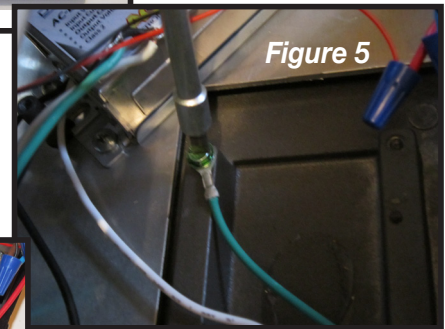
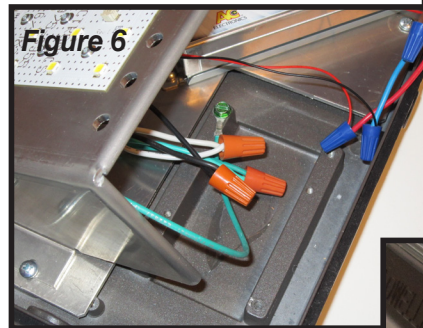

Figure 5
Figure 6
- 5) Attach the original ground wire to the ballast boss using the original ground screw. See FIGURE 5. Next attach branch circuit ground lead to case ground wire using wire nut from original wiring. Next attach branch circuit black wire to driver black wire using wire nut from original wiring. Finally attach white branch circuit wire to white driver wire using wire nut from original wiring. When finish wiring should be as shown in FIGURE 6.